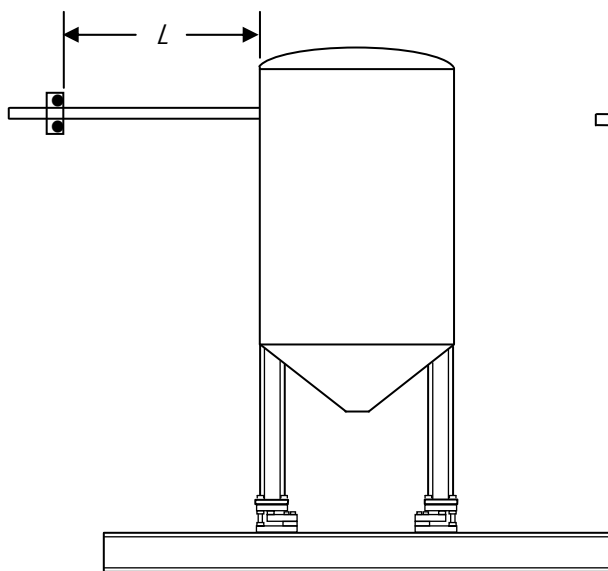
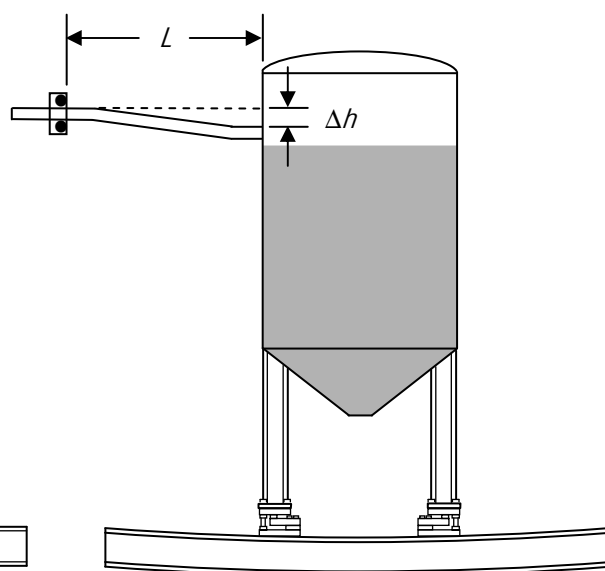

Figure 5-20a: Empty Tank
Figure 5-20b: Full Tank
Why is it important for piping to be flexible? Figure 5-20a shows a tank mounted on weigh modules and supported by an I-beam. A pipe is connected to the tank and rigidly clamped to another structure at a distance (L) from the tank. When the tank is empty, the pipe remains in a horizontal position and exerts no force on the tank. When the tank is full (see Figure 5-20b), it moves downward because of the deflection of the load cell and the I-beam. This pulls the pipe downward the same distance that the tank deflects (Δh). The pipe exerts an upward force on the tank, affecting weight measurements. The more flexible the piping is, the less force it will exert on the tank.